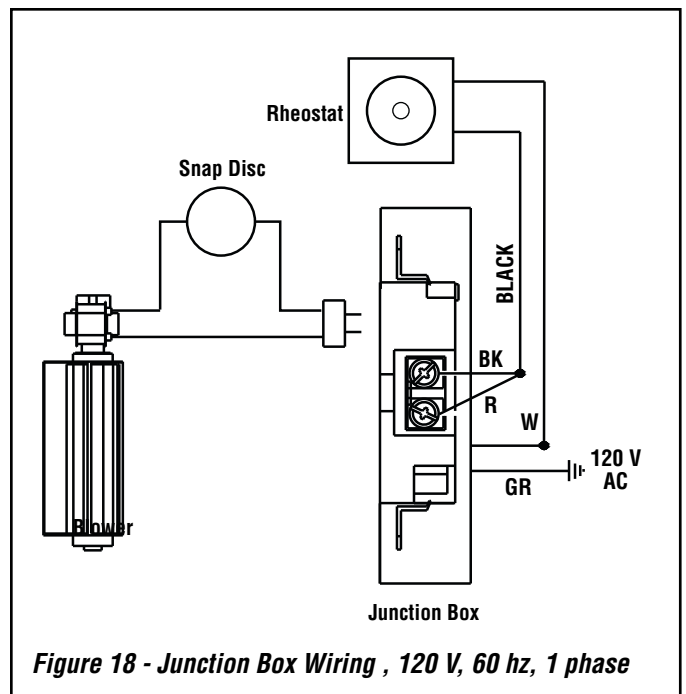

Figure 18 - Junction Box Wiring , 120 V, 60 hz, 1 phase
4. Connect the black power supply wire to the power outlet red and black pigtails together. Connect the white power supply wire to the outlet common terminal (Figure 18).
5. Connect the ground supply wire to the pigtail lead attached to the outlet's green ground screw (Figure 18). Restrain the inlet power lead per NEC or local codes.